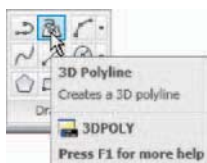
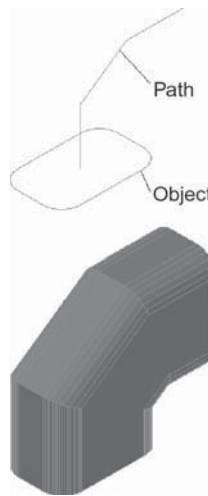

Fig. 12.17 The **3D Polyline** tool from the **Home/Draw** panel
Fig. 12.18 Third example – Extrude
Third example – **Extrude** (Fig. 12.18)
1. Place the screen in the **ViewCube/Top** view and construct a rectangle of size **80 × 50**, filleted to a radius of **15**. Place the drawing in the **View Cube/Front** view and using the **3D Polyline** tool from the **Home/Draw** panel (Fig. 12.17) construct a 3D polyline of three plines each of length **45** and at **45°** to each other at the centre of the outline as shown in Fig. 12.18.
The result is shown in Fig. 12.18.